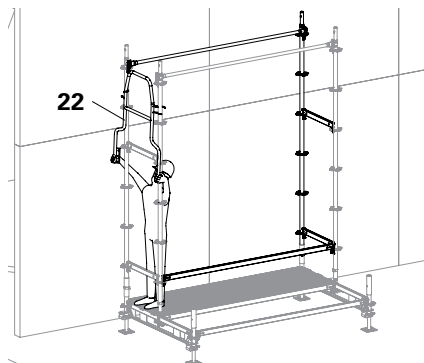

Fig. D3.04
8. Install End Guardrail in advance UPA (22). (Fig. D3.04)